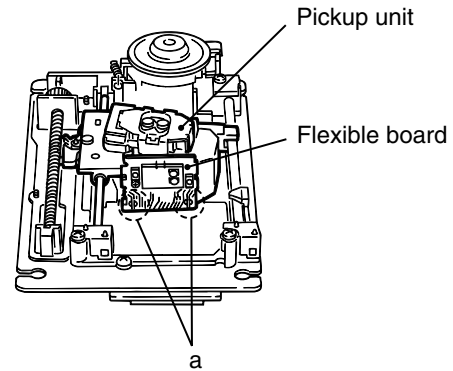

Fig.1
■ Removing the turn table assembly (See Fig.1, 6, 8 and 9)